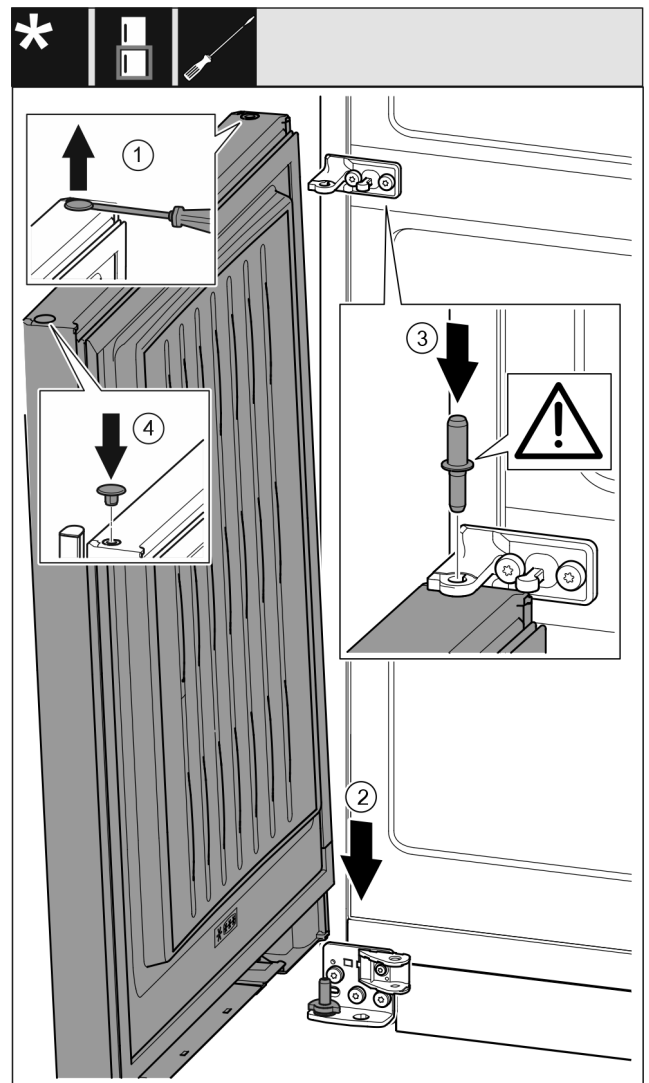

Fig. 41
- Carefully lift up the plugs with a slotted screwdriver and pull them out. Fig. 41 (1)
- Place the door onto the lower bearing pins from above. Fig. 41 (2)
- Insert the centre bearing pin through the centre bearing bracket into the lower door. Make sure that the latching lug is pointing to the rear. Fig. 41 (3)
- Insert the plugs again on the other side of the door. Fig. 41 (4)